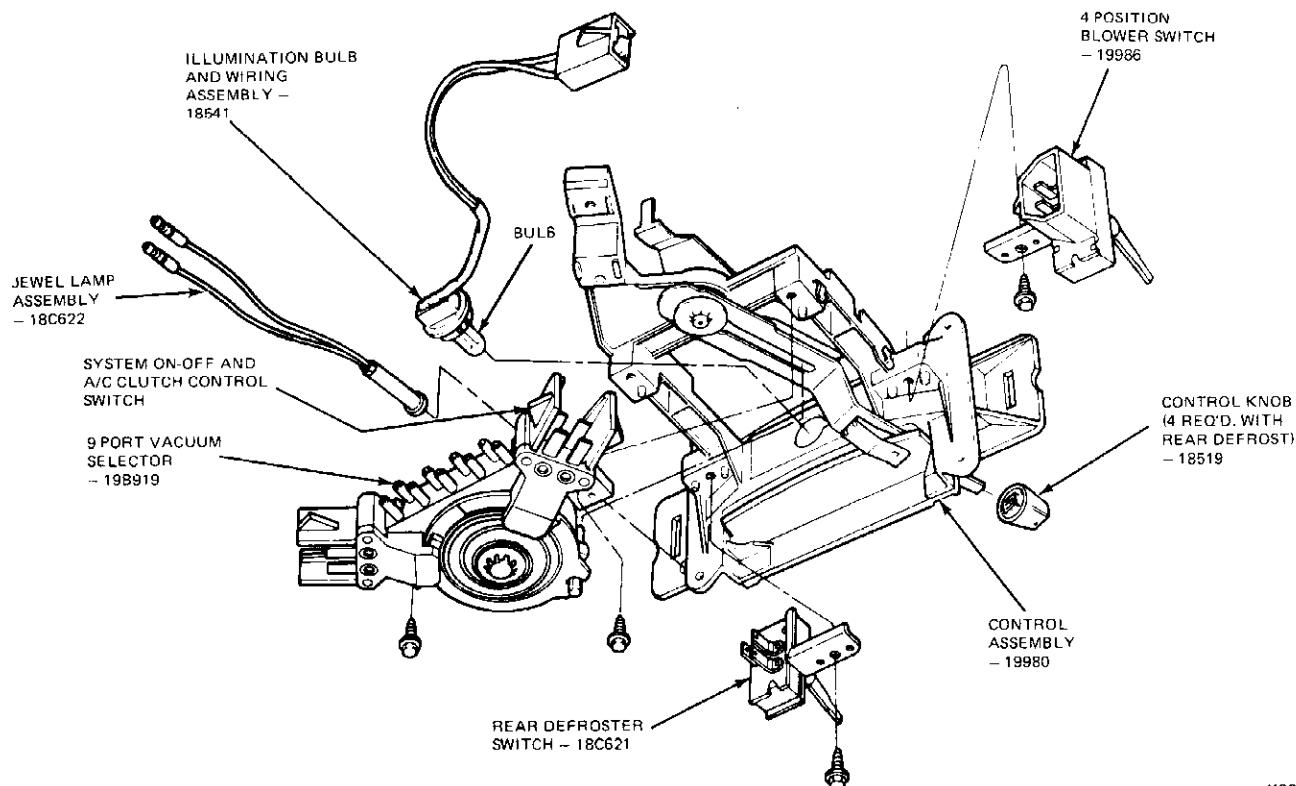

FIG. 24 ATC Control Assembly Disassembled
1. Remove the radio knobs (4) from the radio.
2. Remove the retaining screws (2) securing the right instrument cluster trim panel to the instrument panel.
3. Pull the lower edge of the right instrument cluster trim panel away from the instrument panel and disengage the top right instrument cluster trim panel tabs (2) from the instrument panel. Put the instrument cluster trim panel, radio knobs and trim panel retaining screws aside for later installation.
5. Remove the retaining screws (3) securing the ash tray support bracket to the instrument panel and remove the ash tray support bracket.
6. Disconnect the multiple vacuum connector from the rear of the function control vacuum selector valve (Fig. 24).
7. Disconnect the electrical wire harness connectors (2) from the function control vacuum selector valve.
9. Remove the retaining screws (4) securing the control assembly to the instrument panel.
10. Pull the control assembly out of the instrument panel for access to the temperature control cable assembly retaining screw (1).
11. Remove the retaining screw (1) securing the temperature control cable assembly to the control assembly and remove the control assembly.
2. Remove the retaining screws (3) securing the ash tray support bracket to the instrument panel and remove the ash tray support bracket for access.
5. Remove the retaining screw (1) securing the blower and/or accessory switch(es) assembly(ies) to the control assembly and remove the switch(es) from behind the instrument panel (Fig. 24).
3. Disconnect the multiple vacuum connector from the function control 9-Port vacuum selector valve (Fig. 24).
4. Disconnect the electrical wire harness connectors (2) from the function control vacuum selector valve.
5. Remove the retaining screws (2) securing the function control vacuum selector valve to the control assembly and remove the function control vacuum selector valve.